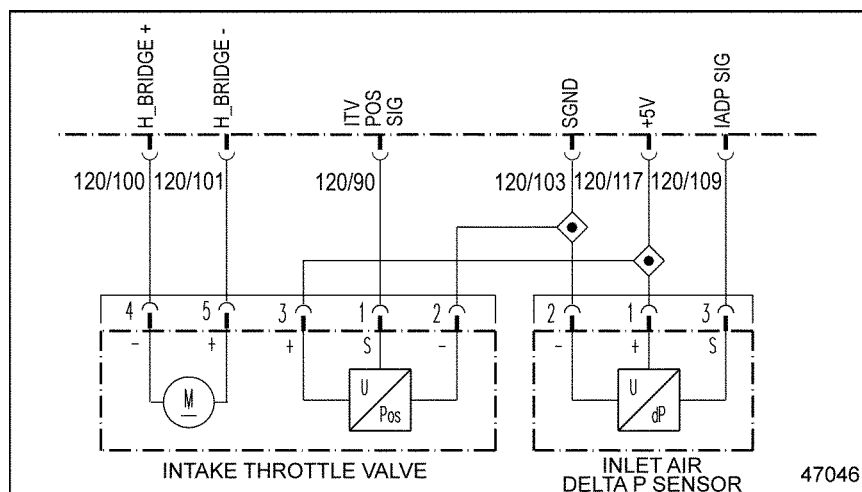

Figure 21-1 Intake Air Delta P Sensor
- [a] If 51/3 and 615/3 are present, repair the open between pin 103 of the 120-pin MCM connector and pin 2 of the Intake Air Delta P Sensor and the Intake Throttle Valve. See Figure 21-1. Refer to section 21.1.1.1.